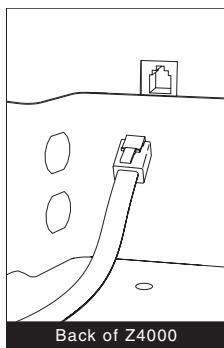

Fig. 1
6. When the transformer powers up, watch the transformer's LED display. The transformer will display 40 00 (Fig. 1) in the volts window and 01 23 or 01 24 in the amps window. Approximately 3 seconds later the volts window will go blank and the amps window will briefly display PG PG (Fig. 2). While this is displayed, press the Panic Stop button, and you should see --- in the volts window (Fig. 3). Immediately following this, the transformer will display 0.0 0.0 in the volts window and RC RC in the amps window (Fig. 4). You now have remote control of Track 1 on Z-4000 1.